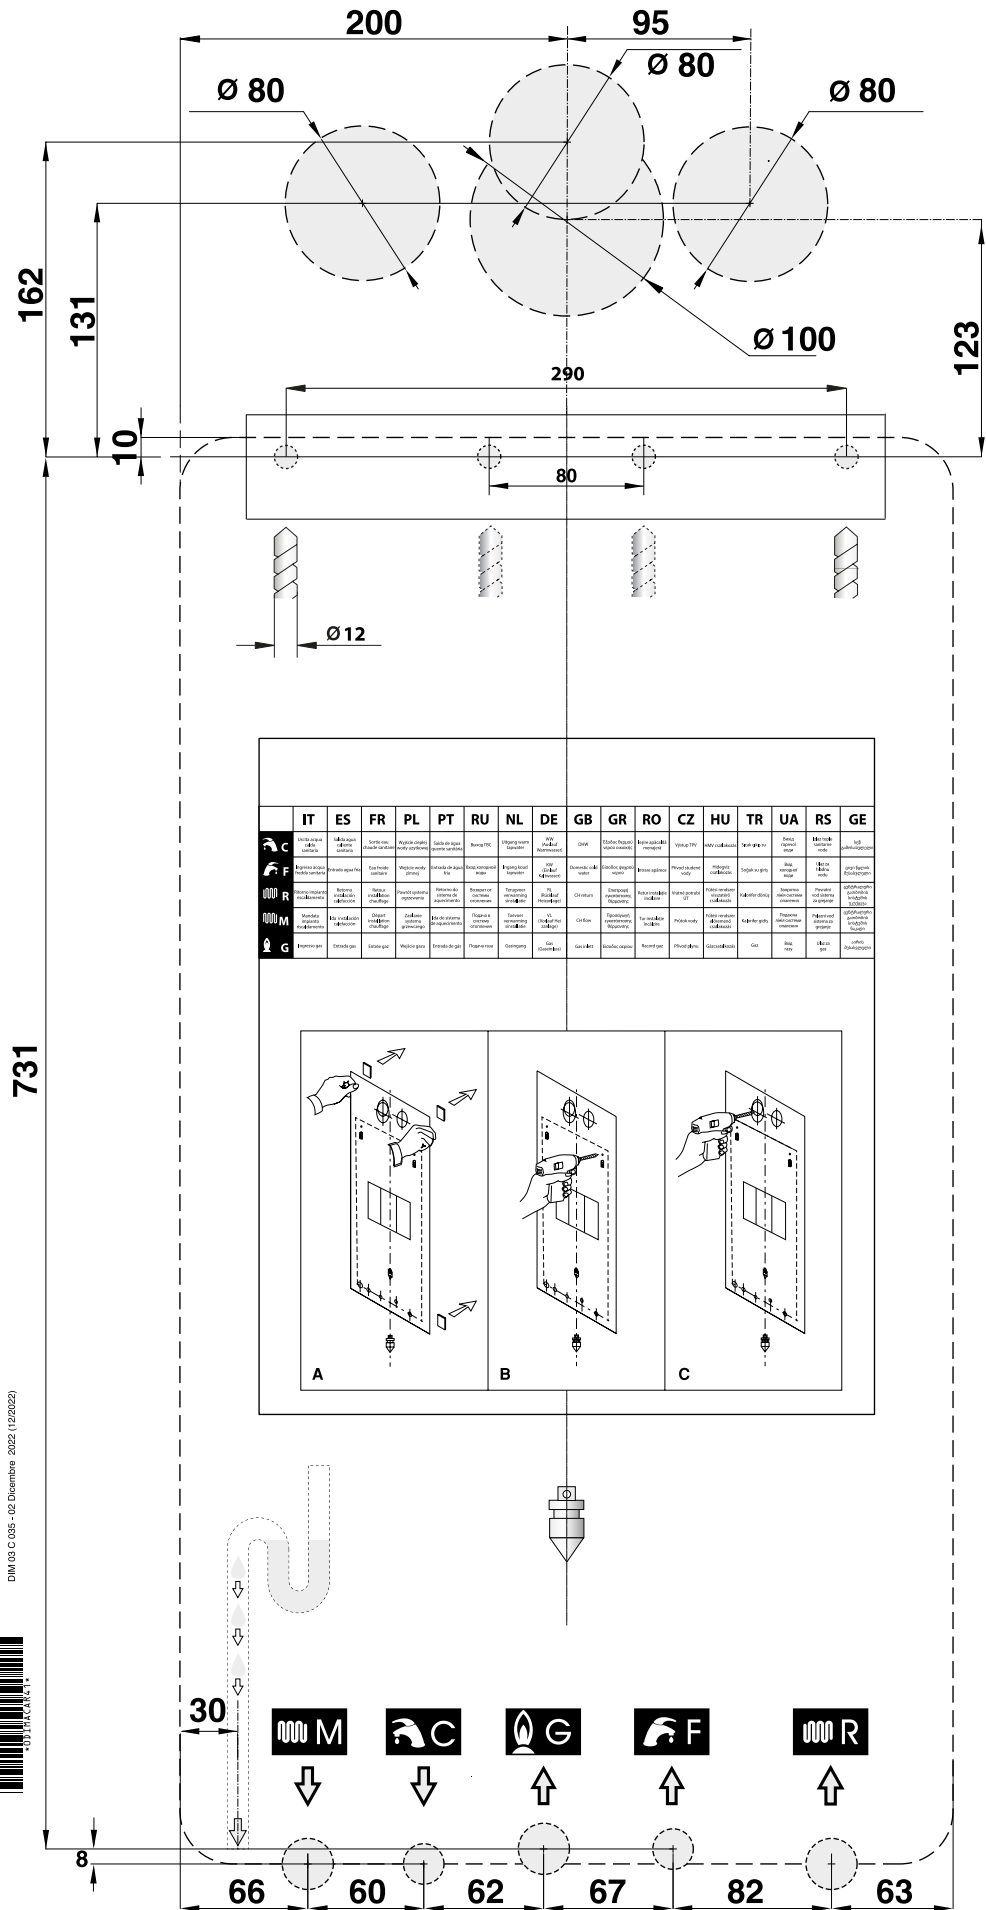

Fig. 7 Paper template
- » the template for mounting the boiler on a wall (see Fig. 7 Paper template).
Each boiler is supplied with a paper template, found inside the packaging (see Fig. 7 Paper template).